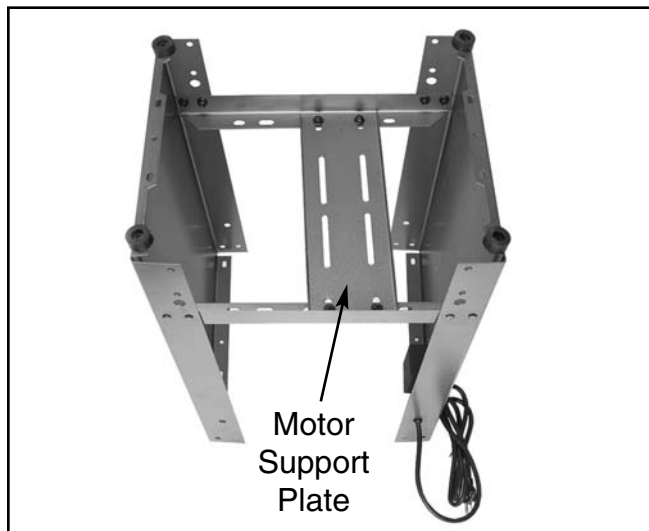

Figure 5. Install motor support plate.
- Now, turn the stand over and attach the motor support plate using (4) $\frac{5}{16}$ "-18 x $\frac{3}{4}$ " hex bolts, (8) washers and (4) hex nuts. **See Figure 5.**